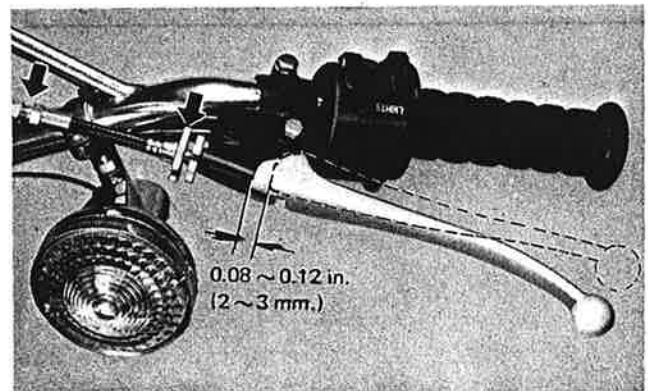

Fig. 2-3-15
- b. Turn the length adjuster either in or out until proper lever freeplay is achieved. (Fig. 2-3-15)